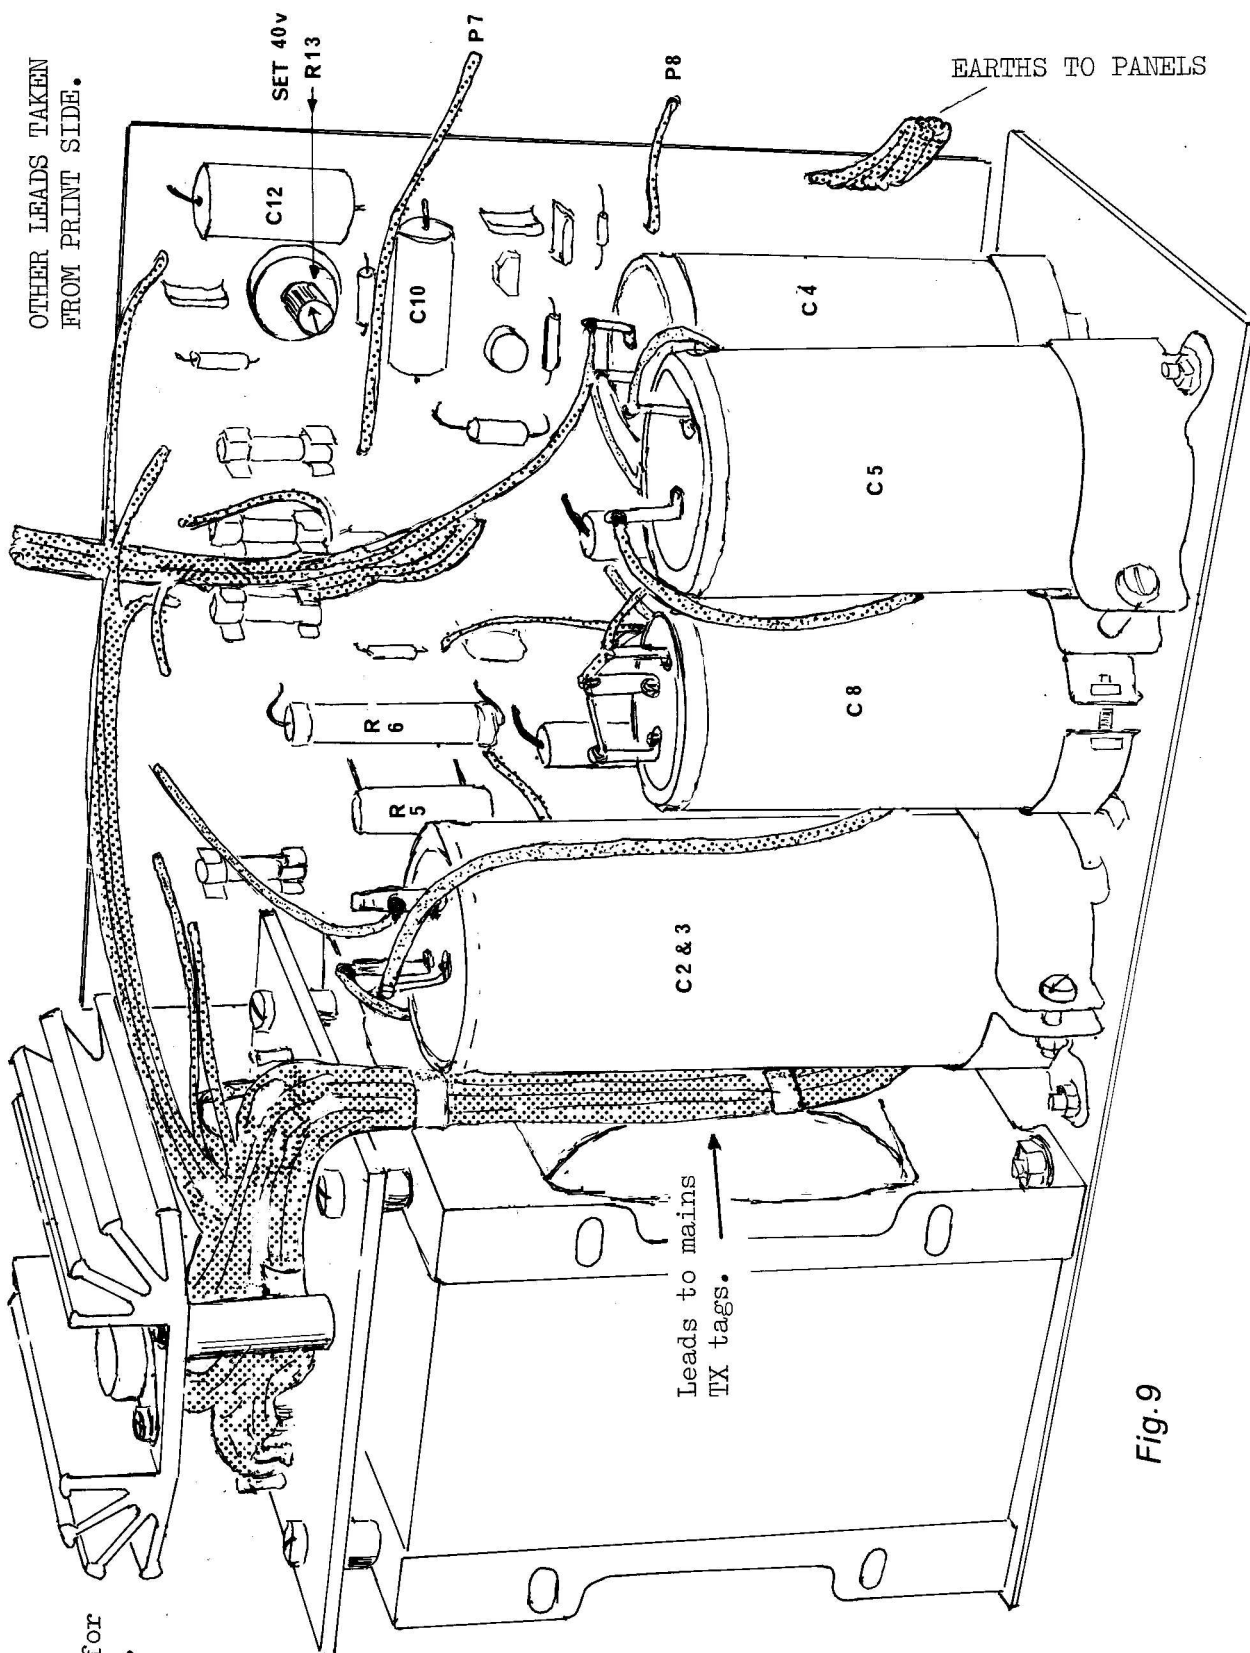

Fig.9
8. Refer to Fig. 9. fix panel 460 with 2 x 2BA onto mains TX (see Fig. 8.) Fit mains TX then wire as circuit diagram No. 6, dress all leads well clear of hot resistors, i.e. 6R3, 4, 5, 6 and 7.
POWER UNIT These leads are soldered directly to the P.C. as in figure 9 except the two browns which go to the transformer on T5 & T6.